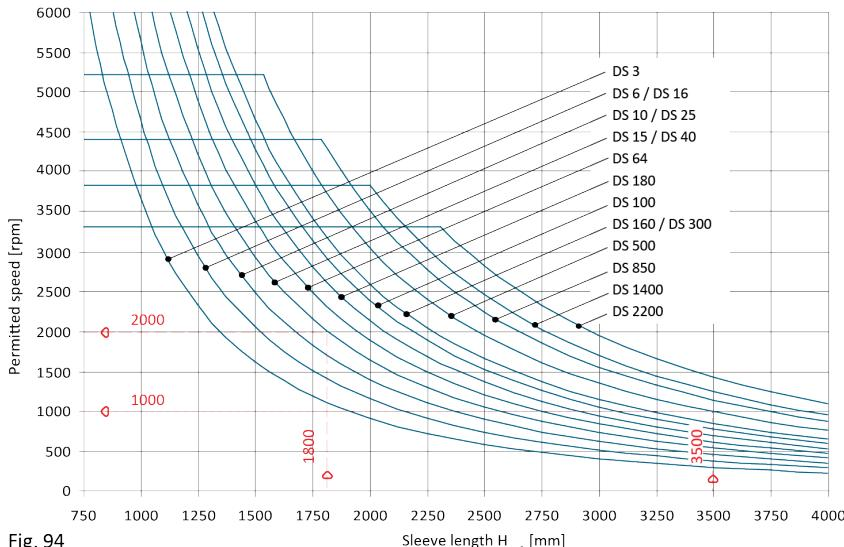

Fig. 94
Examples (Fig. 94)
- Please operate designs with sleeve S, GKR sleeves and CRP sleeves at subcritical levels (see Figs. 94, 95 and 96).